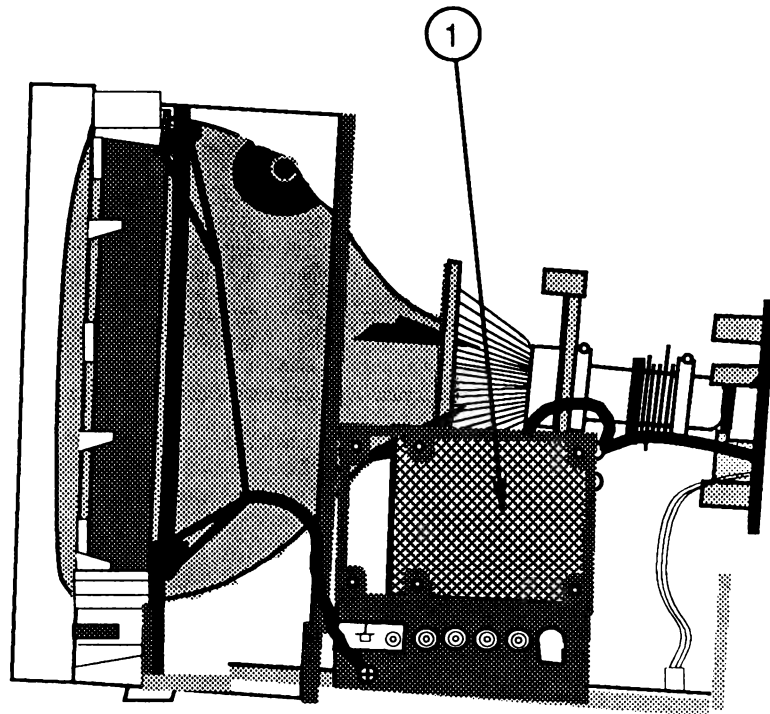

FIGURE 40
3. Locate the power supply board (Figure 40, #1).